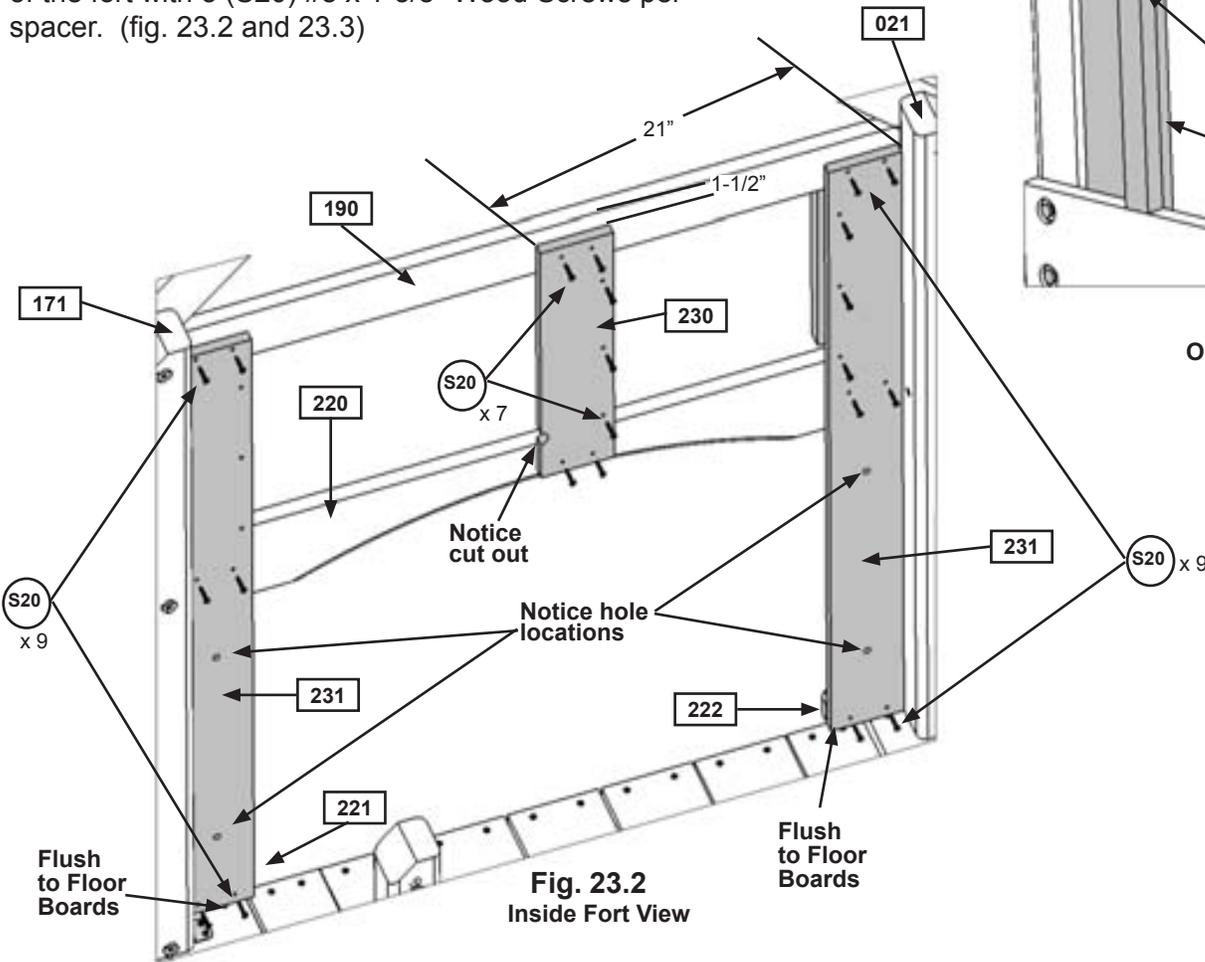

Fig. 23.2
A: From the inside of the fort measure 1-1/2" down from top of (190) Lower Roof and 21" in from inside edge of (021) Post Long on the back side. With the cut out at the bottom and facing (171) Mid Post attach (230) Rope Wall Board to (190) Lower Roof and (220) Top Back with 4 (S20) #8 x 1-3/8" Wood Screws. (fig. 23.2)
B: Tight to both (021) Post Long and (171) Mid Post and tight to the floor boards attach (231) Wall Boards to (190) Top Back, (220) Lower Roof and (221) Long Lower Wall/ (222) Short Lower Wall on the inside of the fort with 6 (S20) #8 x 1-3/8" Wood Screws per board. Notice the hole locations are towards the bottom of the boards. (fig. 23.2)
C: From the outside of the fort place 1 (232) Window Spacer flush to the inside edges of (230) Rope Wall Board and (231) Wall Board. Attach from the inside of the fort with 3 (S20) #8 x 1-3/8" Wood Screws per spacer. (fig. 23.2 and 23.3)